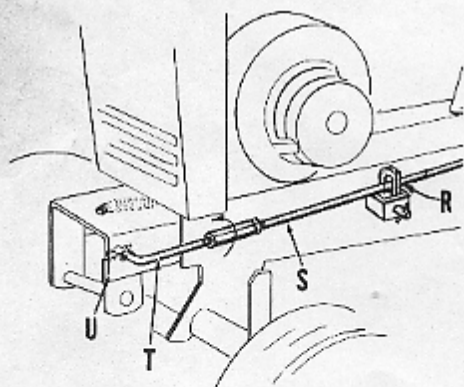

FIG. 9
- Remove spring retainer from front end of belt tightener link, unlock spring from frame and front axle bracket and remove idler shaft assembly and belt from frame. Refer to Fig. 9.